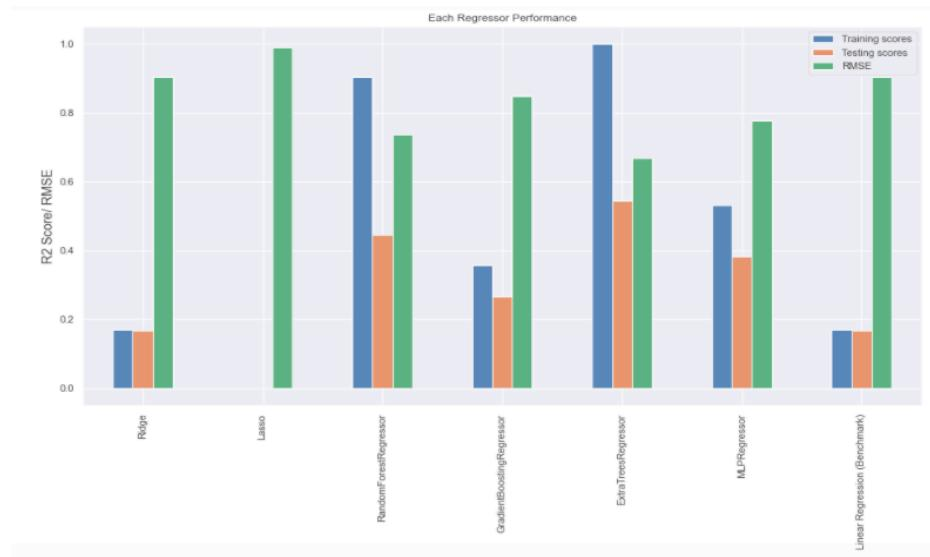

Fig 42
- c. Plot to compare the performance of the algorithms on datasets from different algorithms, as shown in fig 42-